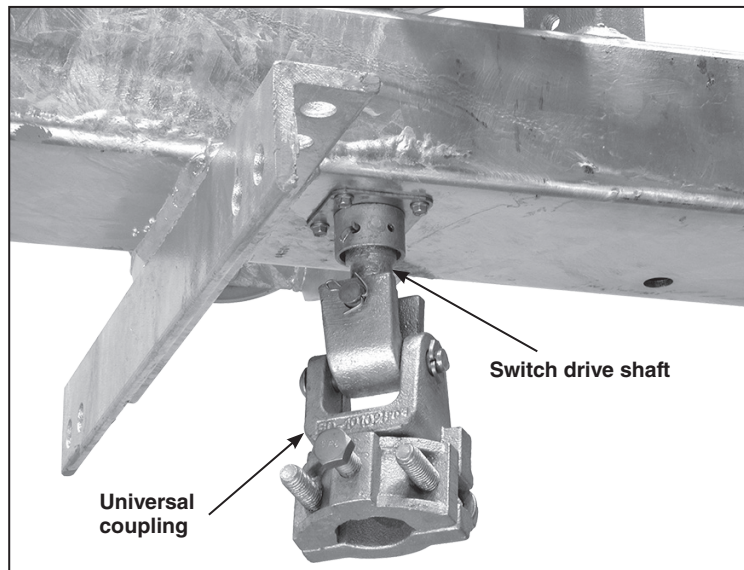

Figure 20. Attach the universal coupling to the switch drive shaft.
STEP 19. Attach a pipe-to-switch bearing type universal coupling to the switch drive shaft on the underside of the switch assembly. See Figure 20.